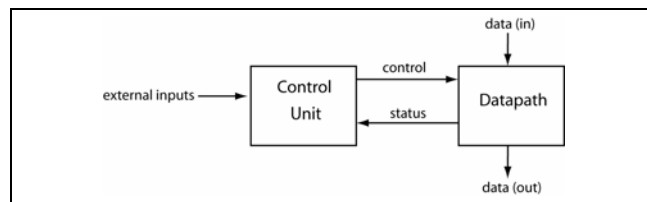

Figure 1: The Control Unit-Datapath model.
**Somewhat Meaningful Comments:** The *datapath* is generally a circuit that contains the hardware required to implement a given set of microoperations. As shown in Figure 1, the datapath is able to implement these operations under control of the *control unit*. The datapath is generally comprised of registers and register-based components but can also contain combinatorial elements.
**Assignment:** Design a datapath that can implement the RTL equations shown in Table 1. Make sure your design is as hardware efficient as possible. Figure 1 shows the top-level diagram for testing your final circuit. Use the connection matrix in Table 2 to connect your final circuit to the development board. Additionally, your circuit should adhere to the following guidelines: